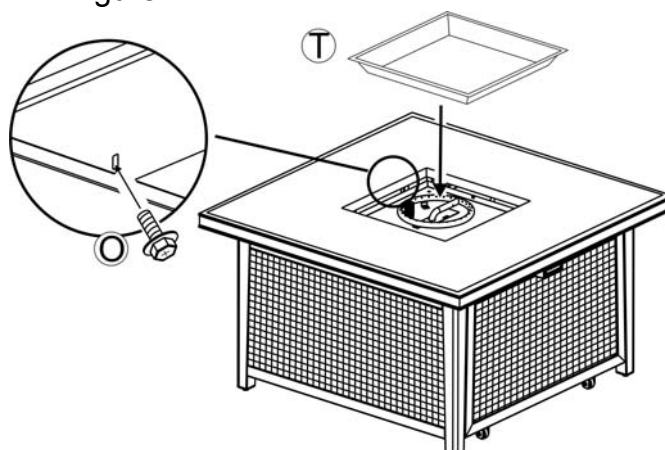

Figure 4
3. Place the burner pan protective ring into the firepan/burner assembly as shown in Figure 4. Align the holes in the burner pan protective ring with the pre-drilled holes on the firepan/burner assembly. Secure the burner pan protective ring to the firepan/burner assembly by using the M4 screws as shown in Figure 4.